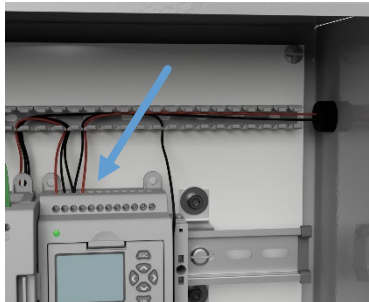

Figure 4
2. Insert your machine input through the available cable gland and connect to the controller as shown in *Figure 4*.